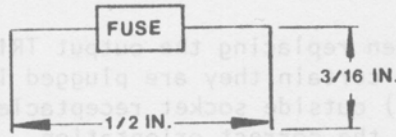

Figure 1.37
6. Shape the leads of the replacement fuse and trim the leads to the dimensions shown in Figure 1.37.